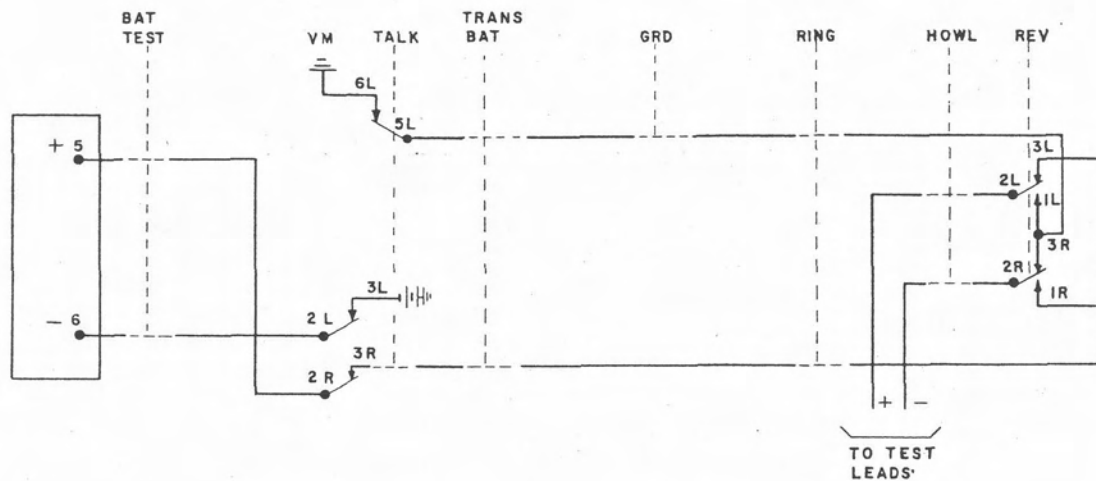

Figure 9. Test for open line.
3.4.4 Test for open (using ringer capacitance). Refer to figure 9. Operate the OUT key and the VM key. Operate the REV key and observe the meter deflection. Restore the REV key and if the line is not open there should be a meter deflection.
4.7.5 Test for open (ringer capacitor or line). Figure 9 illustrates this test. The + and - lines will enter the circuit at break contacts of the HOWL key and go through make contacts 2L & 3L, and 2R & 3R, of the REV key, operated. The +line will go to the voltmeter circuit through make contacts of the VM key 2R & 3R, operated, to the +terminal of the voltmeter. The -line will pass through the test circuit to the voltmeter circuit and go through contacts 5L & 6L of the VM key to ground. The VM key, operated, will send battery to the -terminal of the voltmeter. The ringer capacitor will charge over the loop. When the REV key is restored the capacitor will discharge because of the reversal of the + and - lines. There should be a deflection of the voltmeter needle. If there is no deflection, the capacitor or line is open.